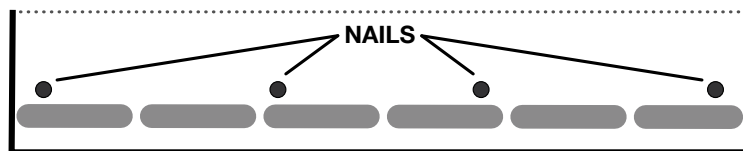

Figure 3 - Smart Start® Fastening Pattern
Nailing Pattern: Use four (4) fasteners for each starter shingle. Install with fasteners placed 1 $\frac{1}{2}$ " - 3" (38-76 mm) up from the eave, one fastener 1" (25 mm) from each end of the starter and the remaining two (2) evenly spaced on the same line as the end fasteners. Do not place fasteners in the seal-down strip. (See Figure 3)